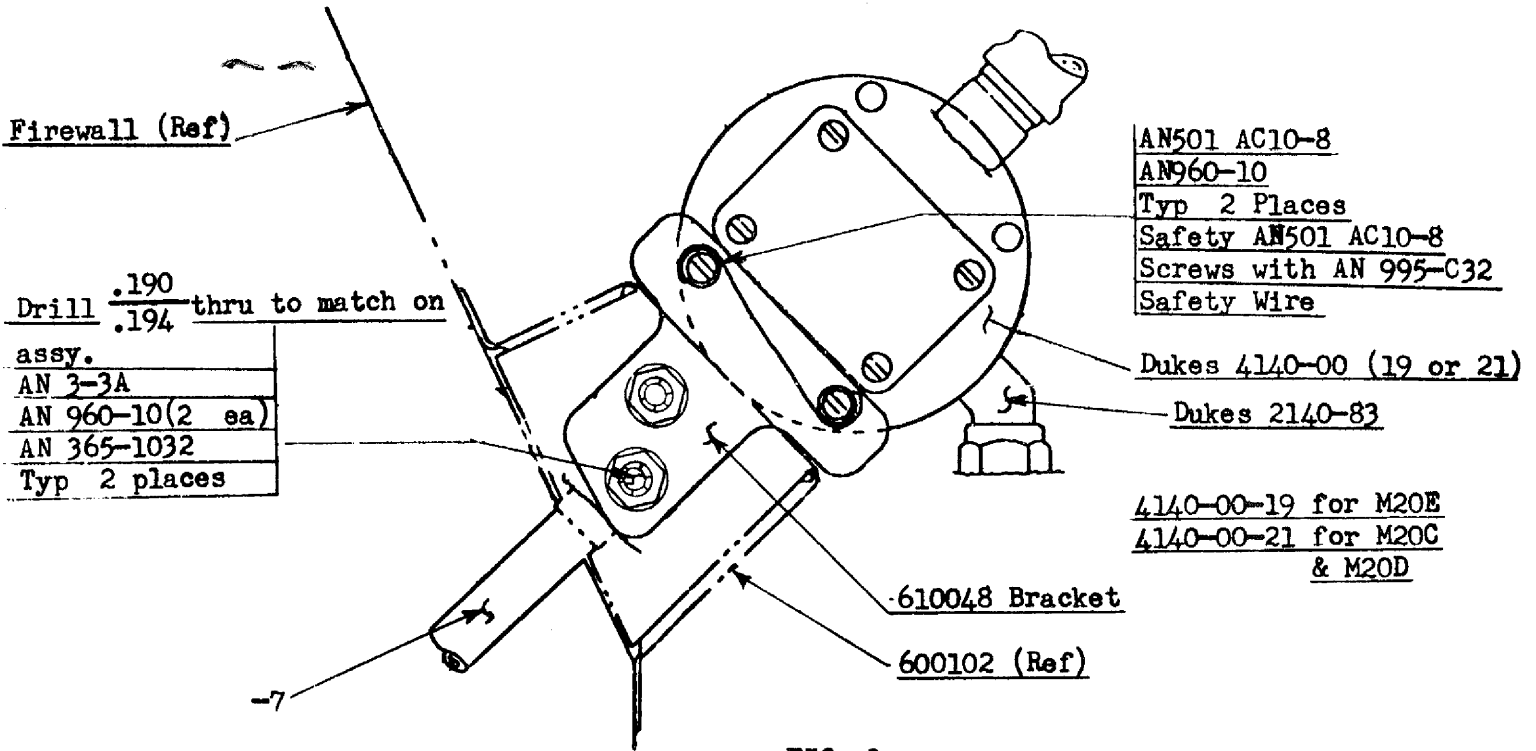

FIG. 1
10. Attach the new bracket (610048) to the fuel pump using two AN9 60-10 washers. Safety wire the two screws. (See Fig. 1).
16. Attach the bracket to the side of the fuel fitting box using two AN3-3 bolts, two AN365-1032 nuts, and four AN9 60-10 washers. (See Fig. 1).